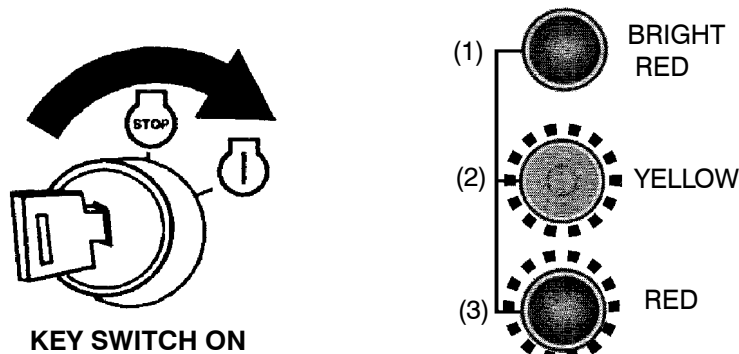

Figure 7.2-30
3. Turn the key switch to the “ON” position (see figure 7.2-30).